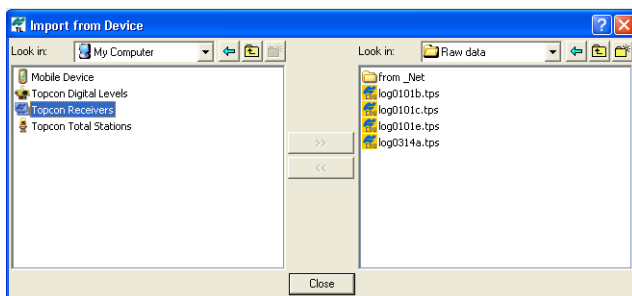

Figure 5-5. Import From Device Window
3. From the left panel of the **Import from Device** dialog box, double-click *Topcon Receivers* (Figure 5-5).